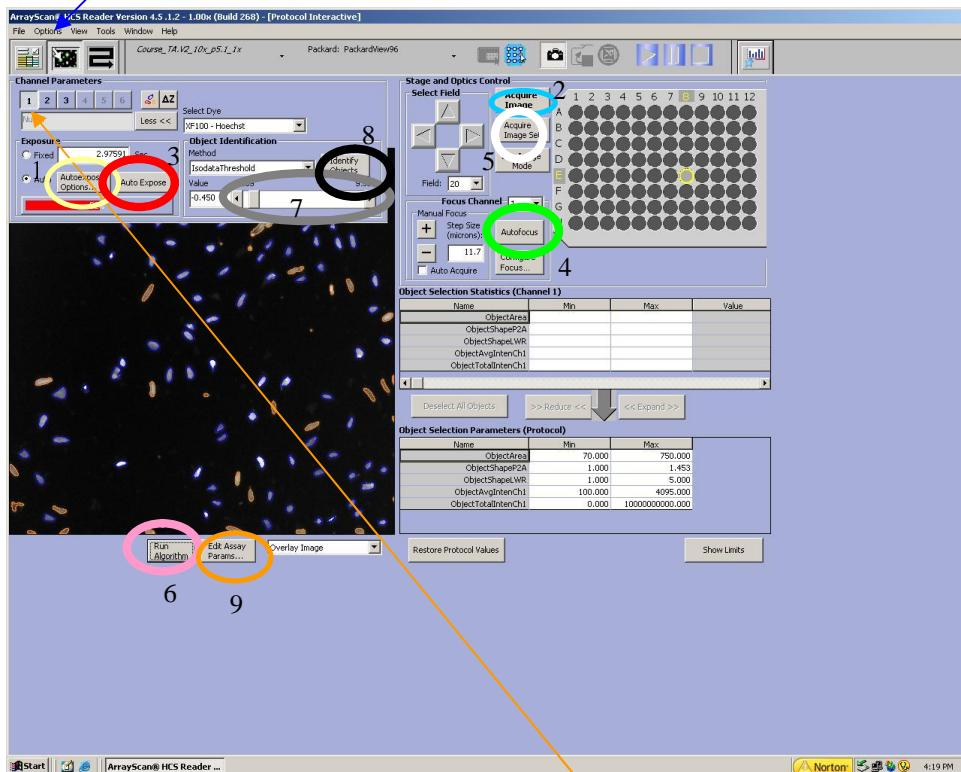

Figure 5. Protocol Interactive window.
Select "File" -> "Save Assay Protocol" on the main menu to save your settings. Click the second leftmost icon on the tool bar. This will open the Protocol Interactive window (Fig. 5).
5. Protocol Interactive window. Make sure that channel 1 is selected in Channel Parameters. Click "Autoexpose Options" Button (yellow circle [1] in Fig. 5) and
6. Channel 1 acquisition settings. On the plate image, select E8 well by clicking on that well. Again, make sure that channel 1 is selected. Open the shutter in the light box (Fig. 6) and click "Acquire Image" button (blue circle [2] on the right in Fig. 5) for getting an image. You will probably not see much because the exposure time is not set and the image is not focused. To fix that, click "AutoExpose" button (red circle [3] in Fig. 5) on the left. Wait until the software is done or it may crash (if the software is busy, you will see an hourglass when trying to use the mouse). Then click the "AutoFocus" button (green circle [4] in Fig. 5) and again wait till the software has performed the autofocus. If the bar below AutoExpose is blue or red (= under/overexposed), click on the AutoExpose button again until the bar is green (exposure time ok). You should now see the Hoechst-stained nuclei.
8. Acquisition of an image set and setting the threshold for channel 1. Once both Hoechst and GFP channels look ok, click "Acquire Image Set" button (white circle [5] in Fig. 5) to acquire images of both channels. Then select channel "1" and click "Run Algorithm" button (pink circle [6] in Fig. 5). The algorithm (= bioapplication that you are using) will show selected objects in blue and rejected objects in orange. Selected objects are nuclei whose average fluorescence intensity (in Hoechst channel) is above the threshold, and rejected objects are nuclei whose average intensity is below the current threshold. Also, nuclei that touch the borders of the imaging area are rejected.
The aim is to have all the nuclei selected (= blue). If that is not the case, you need to lower the threshold by dragging the slide bar above the image (grey circle [7] in Fig. 5) more to the left. Every time you want to see the effect of changing the threshold value, you must click "Run Algorithm" button again. If the blue line seems to be outside the true border of the Hoechst fluorescence, the threshold is too low, and have to be increased by dragging the slide bar to the right. If there are nuclei that do not separate well or some other unsatisfactory segmentation, it can be corrected using more advanced features of the software (which will not be covered here).
- choose a cell that is very weakly positive (= low intensity), point with your finger at that cell while clicking "Identify Objects" (black circle [8] in Fig. 5)
- once you are satisfied with the threshold value, click "Edit Assay Parameters" (orange circle [9] in Fig. 5)